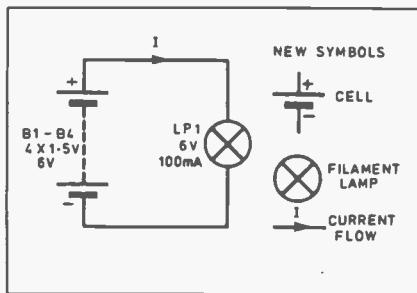

Fig. 1.1(a). Basic electrical circuit.
For the first two parts of Teach In the Mini Lab is operated by a battery at a safe low voltage. Later, as the Mini Lab grows, a mains power supply is described which you will be able to build with complete confidence. Take a look at Fig. 1.1(a), which shows a very simple electrical circuit consisting of nothing more than four 1.5 VOLT (V) "dry cells", labelled B1 to B4, and a bulb (LP1).
The bulb is labelled "LP1" for "Lamp 1" and the supplier's catalogue says that it's rated at "6V 100mA". What do these ratings mean? To find out, let's build the circuit shown in Fig. 1.1(a).
Fig. 1.1(b). The electrical circuit built on the Mini Lab. The 6V Battery Pack is connected externally by screw terminals. Use the ON/OFF switch as needed, and ensure the "EXT BATT" option is selected with a shorting plug. See the Mini Lab constructional details. The "6V ON/OFF" switch is not shown in any demonstration circuit diagrams.
Refer to the constructional details of the Mini Lab which describes the assembly and connection of the 6V battery pack. The positive and negative terminals of the 6V supply are available on distribution socket strips mounted on the Mini Lab board, and you can now build the circuit as shown in Fig. 1.1(b). Insert solid-core jumper wires as shown, to connect the battery to either one of the filament indicators clearly marked on your board.
On its own, our circuit of Fig. 1.1(a) isn't much practical use (except as a torch!) but